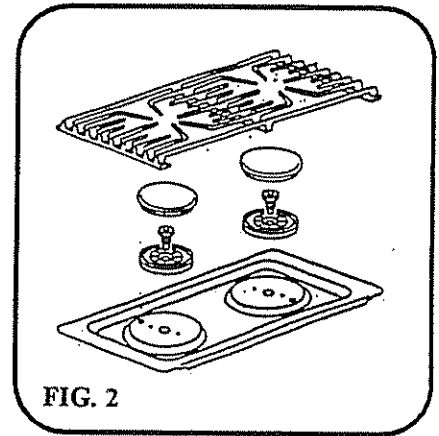

FIG. 2
- 1) REMOVE GRATES, BURNER CAPS AND VENTURI NUTS. (see Fig. 2)